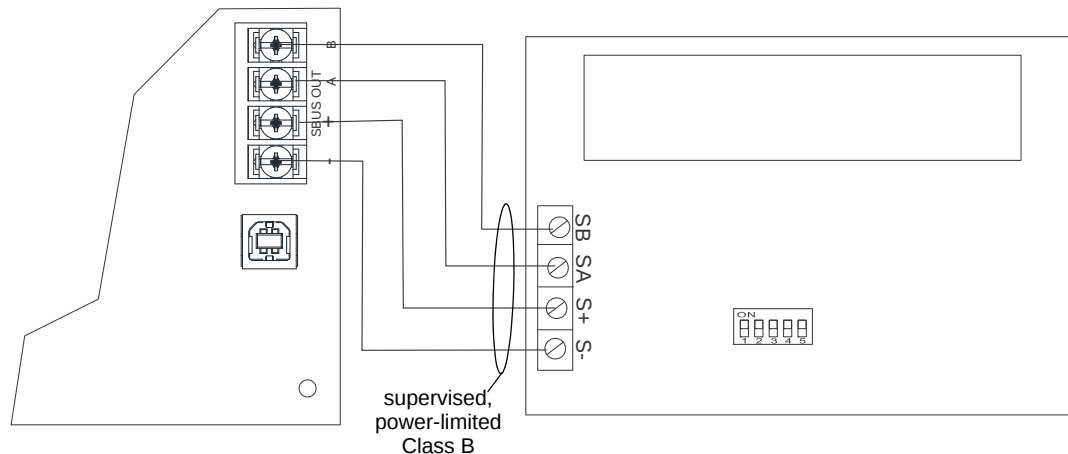

Figure 4.26 RA-2000 Connection to the Panel
3. Wire the annunciator board to the main control panel as shown in Figure 4.26.
7. Run wires to the control panel. Refer to Figure 4.26.